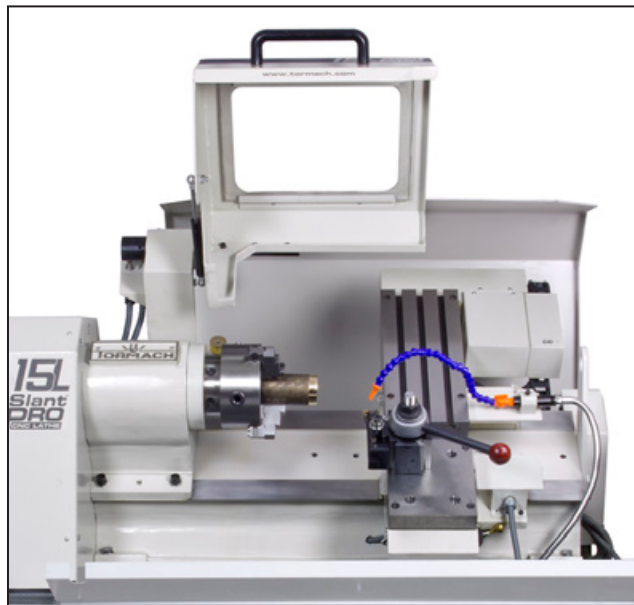

Figure 1
1. After unpacking the Chuck Guard, hold it with two hands in the locations shown in **Figure 1**.